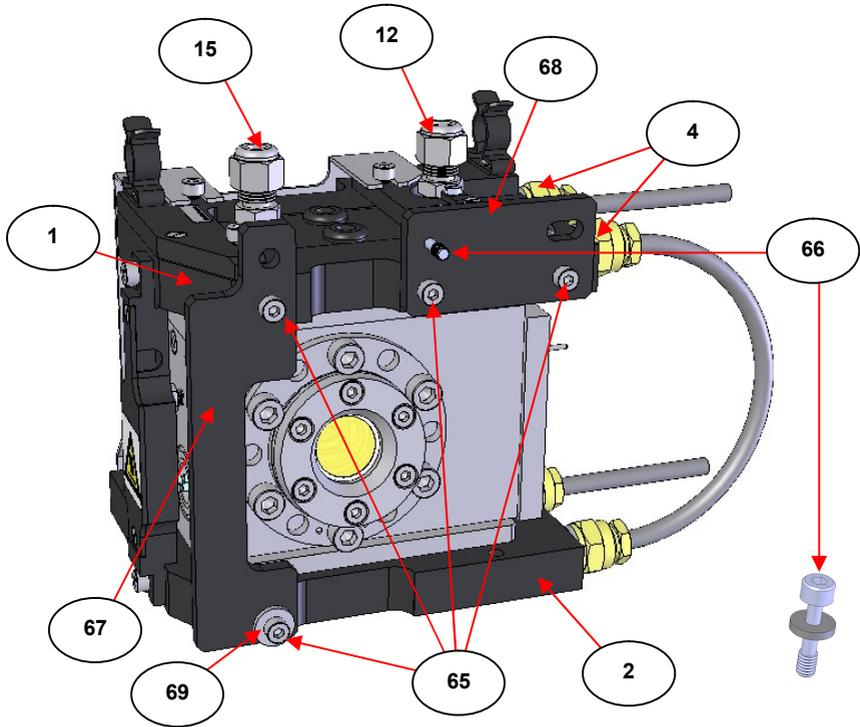

Fig 14. Fitting of the Side Support Bracket and Plate to the HTHP Cell for a Right to Left Beam Direction Spectrometer
Use two of the four M4 x 10mm cap head screws (65) supplied to attach the side support bracket (67) to the upper (1) and lower (2) water cooled plates of the HTHP Cell on the same side as the wedged window assembly (56). (See Fig 14.) There are threaded location holes in the upper (1) and lower (2) water cooled plates corresponding with the fixing hole and cut-out location slot of the support bracket (67) into which the screws (65) are fitted and tightened. The screw (65) fitting into the lower water cooled plate (2) for the support bracket (67) location slot requires use of the M4 x 2mm washer (69) as supplied with the kit of parts for a right to left beam direction spectrometer and as shown in Fig 14..
Note: *In fitting of the support bracket (67), the hole location for attachment to the optical baseplate (OB) is facing uppermost towards the top inlet (12) and outlet (15) gas port connection, with the long edge of the bracket (67) facing outwards to the side of the HTHP Cell as shown for Fig 14..*
The other two of the four M4 x 10mm cap head screws (**65**) are used to fit the short side support plate (**68**) to the upper water cooled plate (**1**) into position as shown from **Fig 14.** There are threaded location holes in the upper water cooled plate (**1**) corresponding with the fixing holes of the support plate (**68**) into which the screws (**65**) are fitted and tightened.
Note: *In fitting of the support plate (**68**), the slot location for attachment to the optical baseplate (**OB**) is facing uppermost towards the top inlet (**12**) and outlet (**15**) gas port connections, and nearest to the water fittings (**4**) as shown for **Fig 14.***
Finally, the supplied M4 x 18mm captive screw fitting with its washer (66) is passed through the central hole next to the location slot for the optical baseplate (OB) of the short side support plate (68) from the direction as shown at Fig 14.. This captive screw (66) is used to secure the HTHP Cell to the optical baseplate (OB) assembly when installed upon the adapter baseplate (AB) assembly within a right to left beam spectrometer system sample compartment.